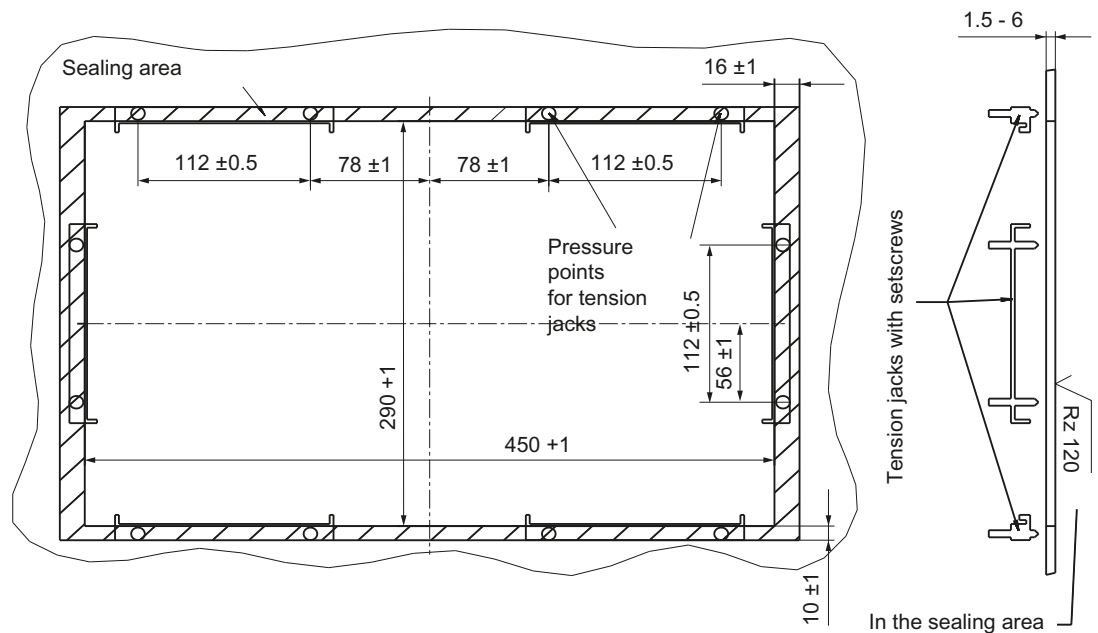

Figure 5-3 Dimension sheet for installing the OP 012 operator panel front
1. Insert the assembled components (operator panel front and PCU) from the front into the panel cutout (see Figure 5-3 Dimension sheet for installing the OP 012 operator panel front (Page 73)).